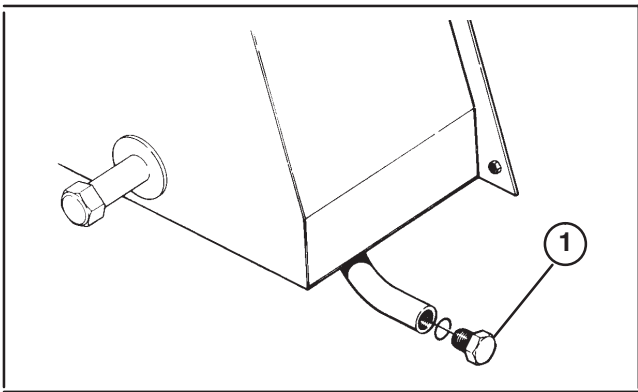

Figure 40
1. Open drain plug (Fig. 40) one—half turn and allow fluid to flow into drain pan until water is not noticed in hydraulic oil.
1. Remove drain plug (Fig. 40) from reservoir and let hydraulic oil flow into drain pan. Tighten plug when hydraulic oil stops draining.